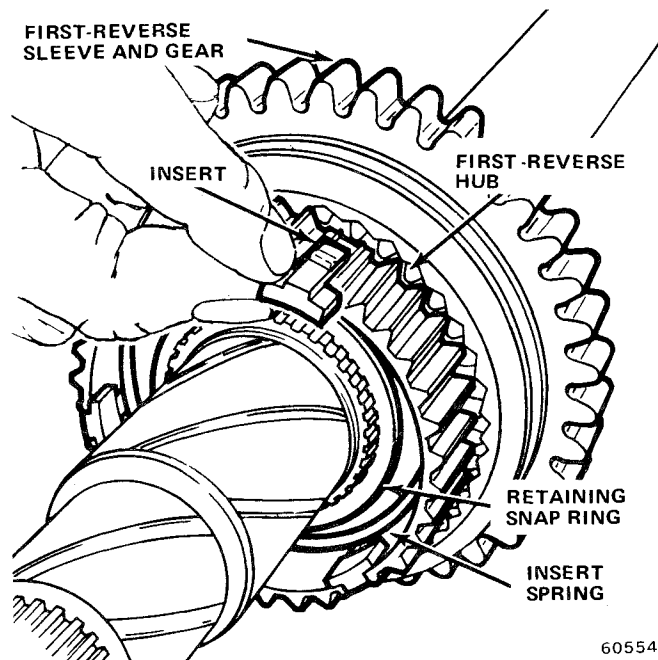

Fig. 2B-9 First-Reverse Hub Insert Installation
(10) Coat all mainshaft splines and machined surfaces with transmission lubricant and start first-reverse synchronizer hub on output shaft splines by hand. End of hub with slots should face front of shaft. Use arbor press to complete hub installation on shaft and install retaining snap ring in most rearward groove (fig. 2B-9).